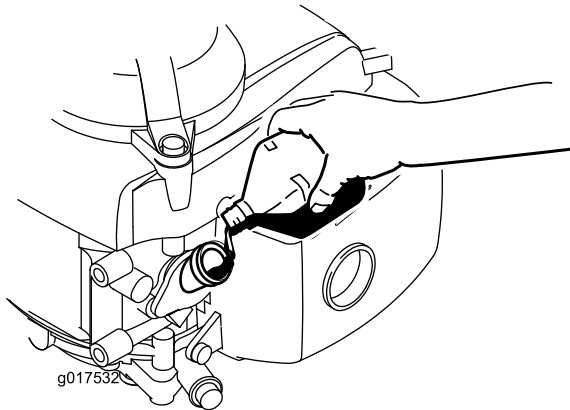

Figure 6
3. **Slowly** pour oil into the oil-fill hole, wait 3 minutes, and check the oil level on the dipstick by wiping the dipstick clean and then inserting, **but not screwing in**, the oil-fill cap into the hole (**Figure 6**).